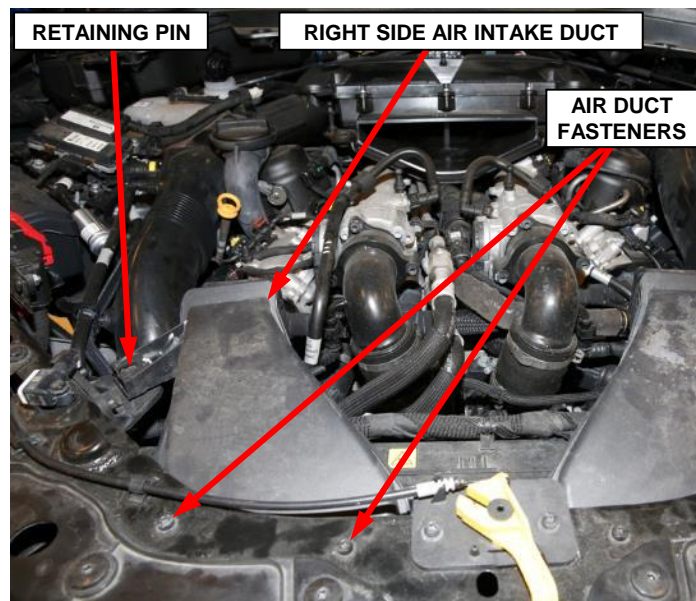

Figure 13 – Right Side Air Duct
32. Remove the two fasteners securing the right side air intake duct to the front support crossmember (Figure 13).
33. Disengage the retaining pin securing the right side air duct to the front support crossmember then remove the right side air intake duct (Figure 13).
20. Install the right side air duct to the front support crossmember while engaging the retaining pin (Figure 13).
21. Install and tighten the fasteners securing the right side air intake duct to the front support crossmember (Figure 13).